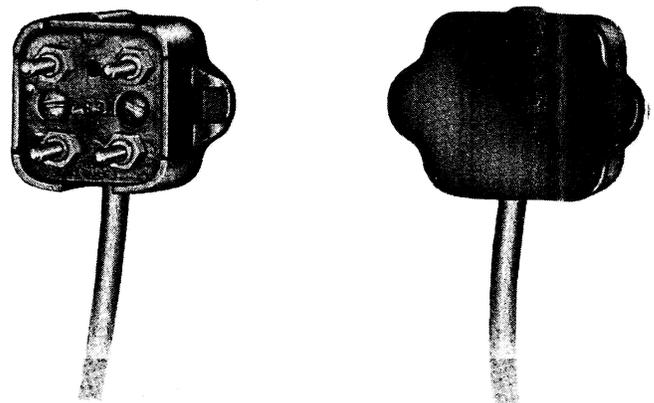

Fig. 2—283B Plug
2.03 The 283B plug (Fig. 2) is a two piece, 4-contact plug of molded plastic in colors to match telephone set colors (see Table A). The mounting cord is secured by either a wingband inserted in a slot in the cover or an S hook secured with a self-tapping screw packed with the plug.
4.03 Connections for 283B plug (Fig. 2) are as follows: